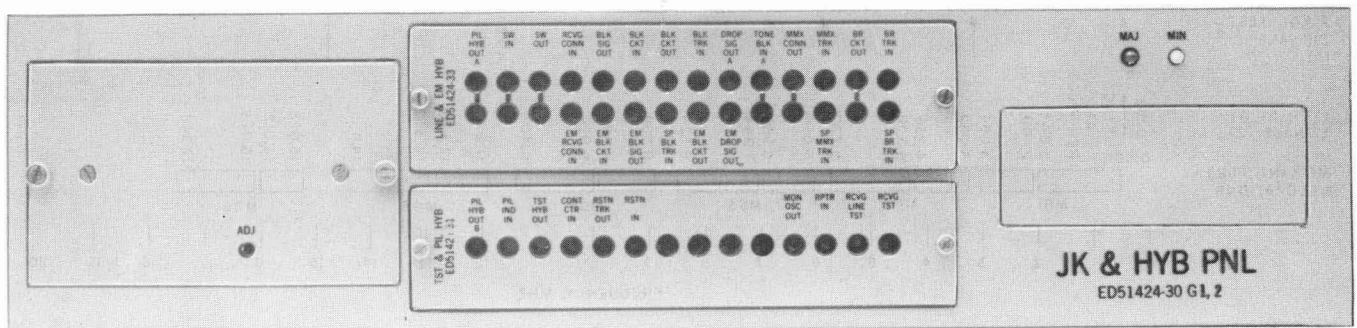

Fig. 4—Receiving Jack and Hybrid Panel
- (g) ♦Jack and hybrid panel ED-51424 (Fig. 4) or ED-50711(MD).♦